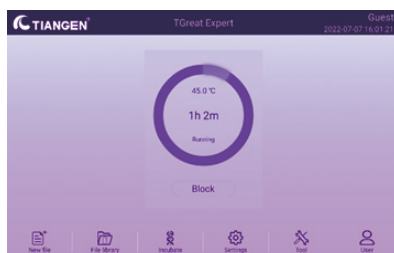

Figure 4.14: Home Running
- (2) Click "Pause" from the Status screen to suspend the protocol and keep the reaction block at the temperature of the current step. Click "Continue" to resume the protocol;
- (3) Click "Next" from the Status screen to skip the current step.
- (4) Return to the home screen to check the status of the run and the remaining time (Figure 4.14).